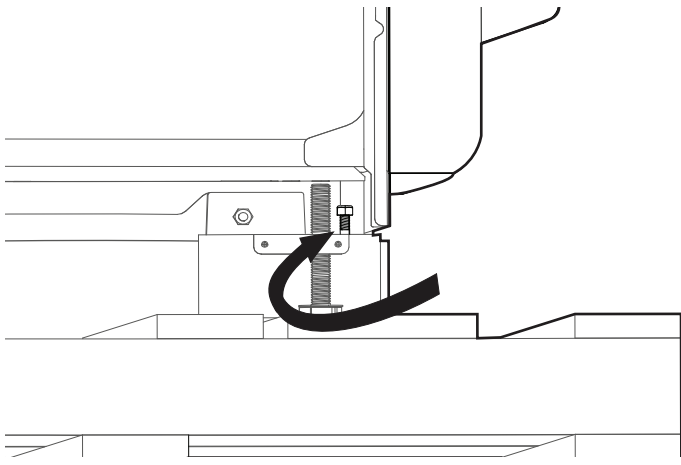

Figure 9: Removal of Bolts Beneath Warming Drawer
- PRDS48JDSGU/C models:** To access the pallet bolt located beneath the warming drawer, reach up and behind the frame of the unit with one ½" wrench to hold the nut at the top (see Figure 9). Use the second wrench to loosen the bolt at the bottom. **DO NOT remove the warming drawer.**